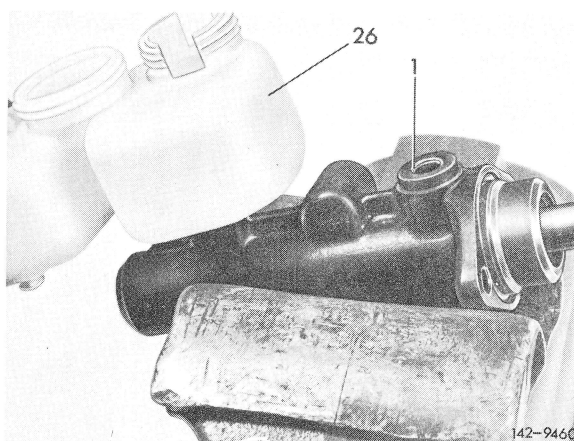

Fig. 18
34 Coat tank plug (1) lightly with brake cylinder paste and push into housing (Fig. 18).
Make sure of perfect seat (refer to arrow) (Fig. 18 and 19).